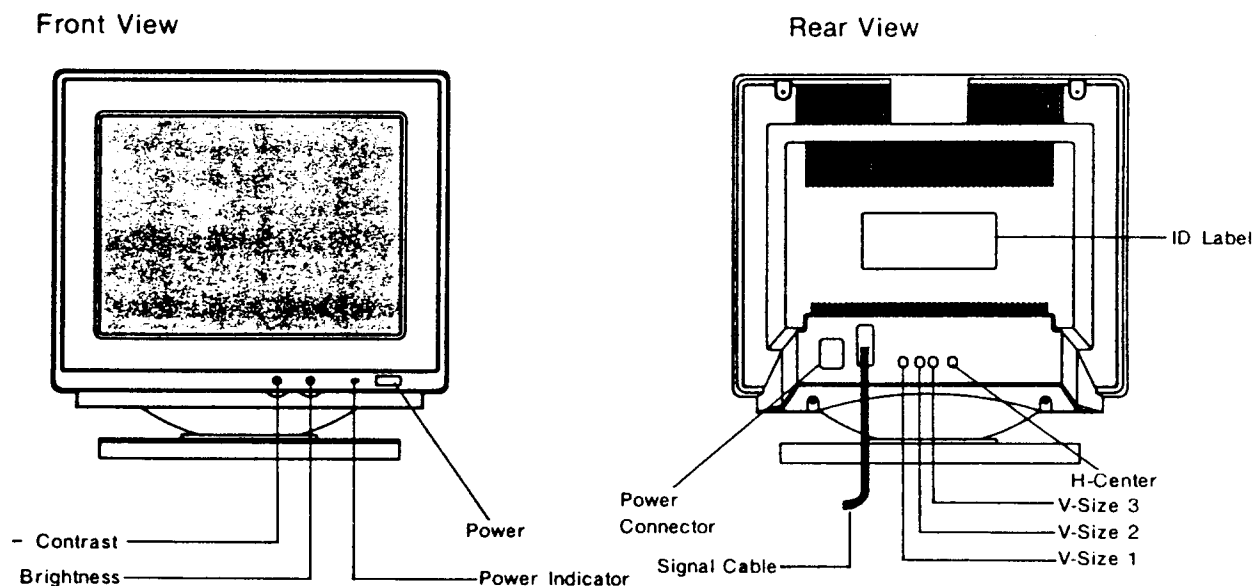

Figure 1, Monitor Controls
The input signal is based on the TTL sync. and ANALOG Video. Figure 1 shows the monitor controls on the front and rear panels.
4. When the Cross Hatch Pattern is displayed on the monitor, the difference of A - B should be within 2.5mm and the difference of C - D should be within 2mm. Refer to Fig. 1
(Fig. 1)